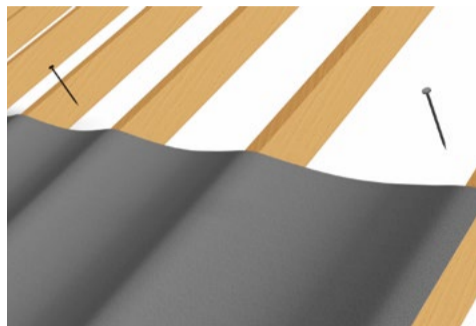

fig 2: Drape and nailing
3. Where unsupported, the Danelaw LR120 should be installed with a drape over timber rafters or counter battens of not less than 10mm and not greater than 15mm. It should be temporarily secured with the minimum number of clout nails above the upper overlap line at maximum 1200mm horizontal centres (fig. 2). Minimise any gaps in the horizontal laps resulting from different tautness in the underlay courses. The tile or slate battens should be installed at the appropriate gauge and fixed to provide the main anchorage point for the underlay.